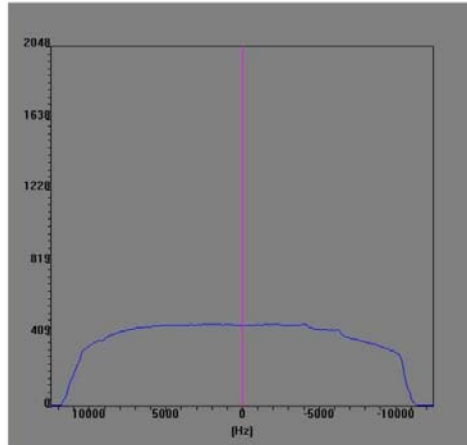

Figure 2: Example of the projection of a sagittal slice when the Oil/Water phantom is centered
- Run Receive Gain mode and move the phantom along the direction of the bore until the object projection is centered in the field of view (refer to Figure 2).